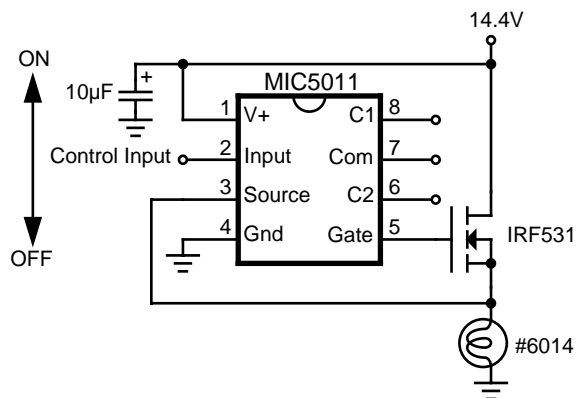
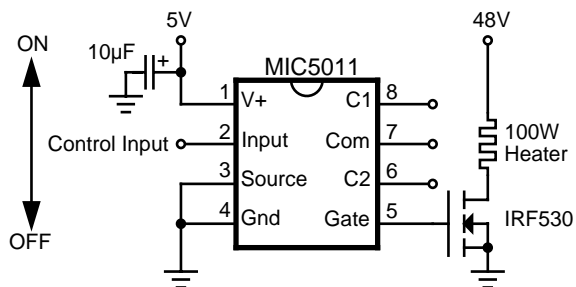

Figure 1. High Side Driver
Figure 2. Low Side Driver
The MIC5011 is suited for use with standard MOSFETs in high- or low-side driver applications. In addition, the MIC5011 works well in applications where, for faster switching times, the supply is bootstrapped from the MOSFET source output. Low voltage, high-side drivers (such as shown in Figure 1) are the slowest; their speed is reflected in the gate turn-on time specifications. The fastest drivers are the low-side and bootstrapped high-side types (Figures 2 and 4). Load current switching times are often much faster than the time to full gate enhancement, depending on the circuit type, the MOSFET, and the load. Turn-off times are essentially the same for all circuits (less than 10 $\mu$ s to  $V_{GS} = 1V$ ). The choice of one topology over another is based on a combination of considerations including speed, voltage, and desired system characteristics.
**High-Side Driver** (Figure 1). The high-side topology works well down to  $V^+ = 7V$  with standard MOSFETs. From 4.75 to 7V supply, a logic-level MOSFET can be substituted since the MIC5011 will not reach 10V gate enhancement (10V is the maximum rating for logic-compatible MOSFETs). High-side drivers implemented with MIC501X drivers are self-protected against inductive switching transients. During turn-off an inductive load will force the MOSFET source 5V or more below ground, while the MIC5011 holds the gate
**Low-Side Driver** (Figure 2). A key advantage of the low-side topology is that the load supply is limited only by the MOSFET BVDSS rating. Clamping may be required to protect the MOSFET drain terminal from inductive switching transients. The MIC5011 supply should be limited to 15V in low-side topologies, otherwise a large current will be forced through the gate clamp zener.